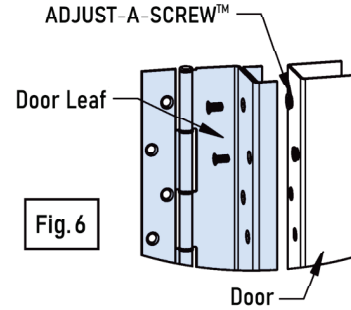

Fig. 6
#### Adjustable Hinge (Fig 6)
**Special Note:** If door is properly aligned, install and tighten remaining screws. If door requires alignment for proper fit, make this adjustment with four screws installed without removing door. Remove one screw and insert Allen wrench through hole into Adjust-A-Screw (Fig 6). Turn Adjust-A-Screw in direction desired for adjustment. One full turn of Allen wrench is equal to 1/16". Reinstall screw. Adjust remaining screws in same manner. Close door to verify door is aligned properly in opening. The balance of Adjust-A-Screw should be adjusted in same manner until all are resting firmly against inside face of door. Then install and tighten remaining machine screws. Be sure adjustable angle is pressed firmly against face of door as screws are tightened.